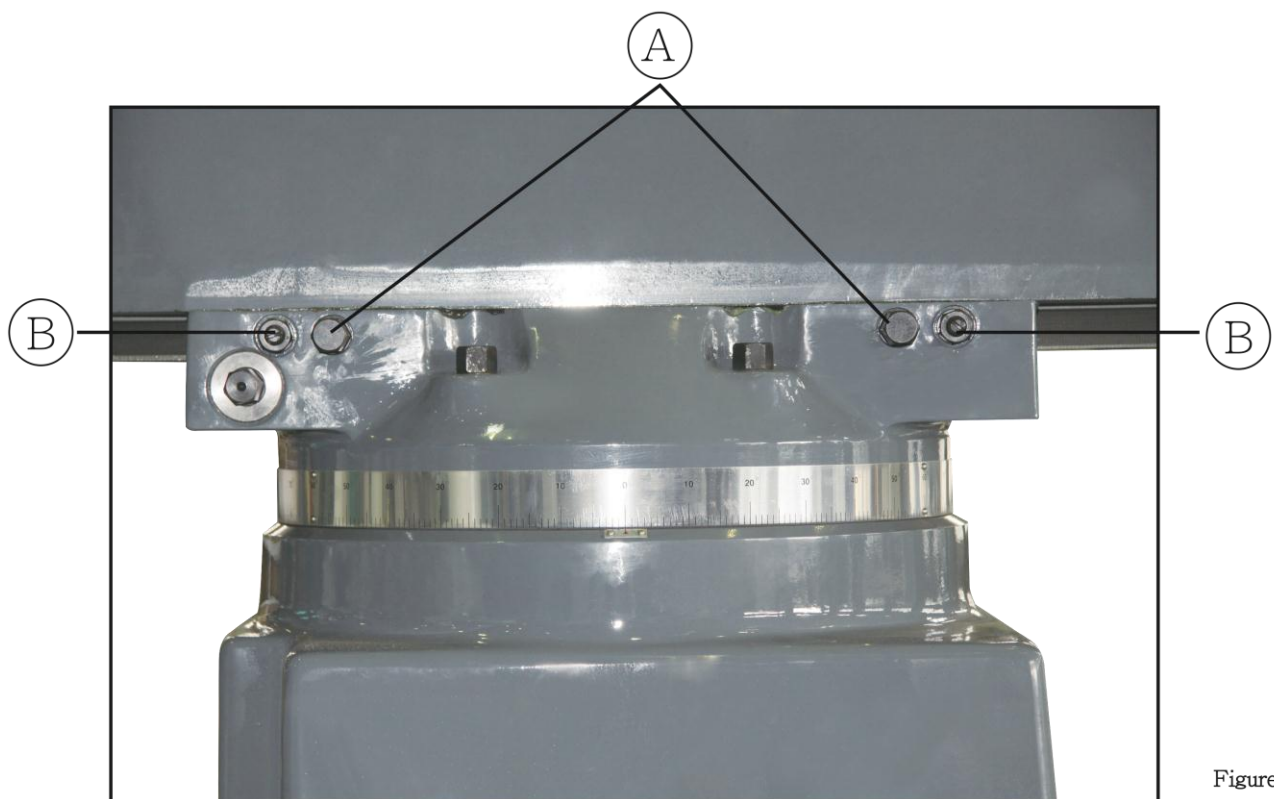

Figure 30
6. Adjustment of Ram Gib (Vide Figure 30):